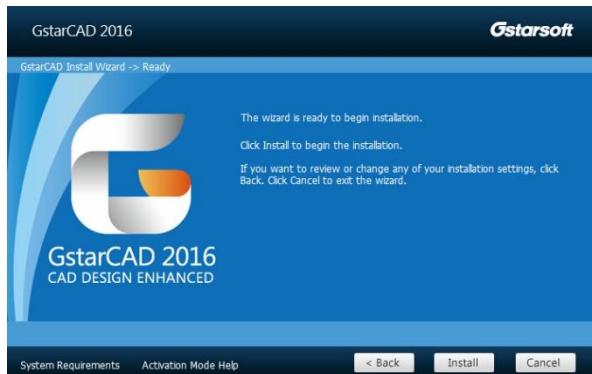

Figure 1-5
5.- Then the wizard is ready to begin the program installation. If you want to review or change any of your installation settings just click the "**Back**" button. Click the "**Install**" button to continue the installation. See Figure 1-5.